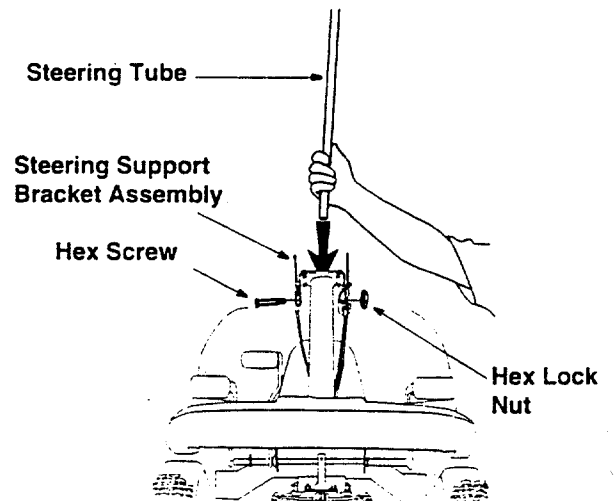

**Figure 4**
- Replace the cell caps on the battery. Make sure that the drain tube is attached and routed properly. Refer to Figure 4.
- Place the battery into the battery opening with positive terminal toward the rear of the unit. Make certain both the negative (black) cable and the positive (red) cable are routed up through the battery opening. See Figure 4.
- Attach the positive (red) cable to the positive terminal of the battery. See Figure 4. Secure with hex bolt and nut provided with the battery. Slide rubber boot over the positive terminal.
a hex bolt and nut provided. See Figure 4.
- Route the battery drain tube through the opening in the mower frame. See Figure 4.
- Pull up on the hold-down rods through the slot on the battery cover and insert one wing nut on each hold-down rod. Tighten the two wing nuts to secure the battery to the unit. See Figure 4.